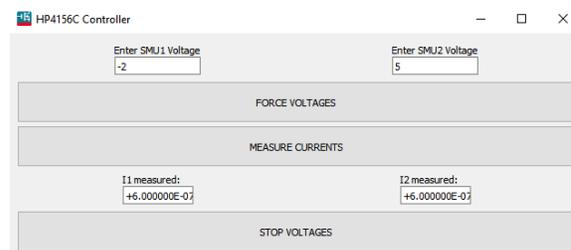

Fig. 11.2. HP4156C Controller in IC-CAP.
- 11.9 In the “HP4156C Controller” window (Fig. 11.2), set the voltages for SMU1 and SMU2, then click on “FORCE VOLTAGES” to let the PSPA supply voltages to the DUT. The resulting currents can be measured by clicking on “MEASURE CURRENTS.” The SMUs continue to supply voltages until “STOP VOLTAGES” is clicked on. With the SMUs activated, you can then command the VNA to measure S parameters with the DUT under external supplies. Remember to click on “STOP VOLTAGES” when you finish all measurements or before moving to another device. **Do not shock a device or person with live voltages!**